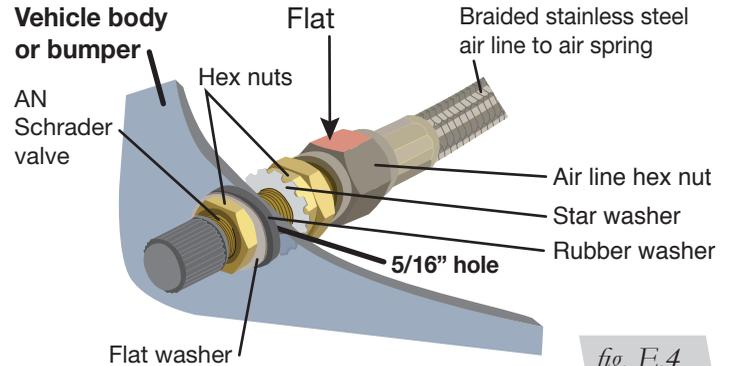

fig. E.4
2. Tighten the air line hex nut finger tight, then use 2 wrenches to turn 1 additional flat (1/6 of one full turn). **Do not overtighten** (Figs. E.4 or E.5). The easiest way to tighten the fitting is off the vehicle. Install the Schrader valve in the chosen location.